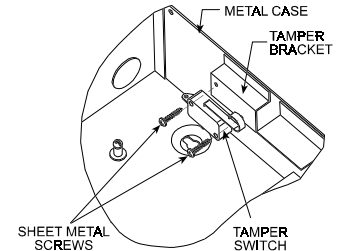

Figure 3.5 TK-1 Assembly
- (1) Align the tamper switch with the bracket as shown in Fig. 3.5.
- (2) Use the two sheet metal screws to fasten the switch to bracket. Tighten the screws well, but do not overtighten because this may break the switch.
- (3) Verify that the switch contacts close when the front lid is closed.
- (4) Connect the tamper switch wires to the zone terminals of a zone dedicated to 24-hour tamper protection.